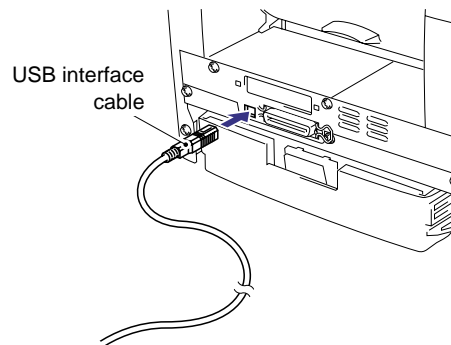

Fig. 2-14
- (1) Check that the printer power switch is on.
- (2) Connect the USB interface cable to the computer, then connect it to the printer. (Fig. 2-14)